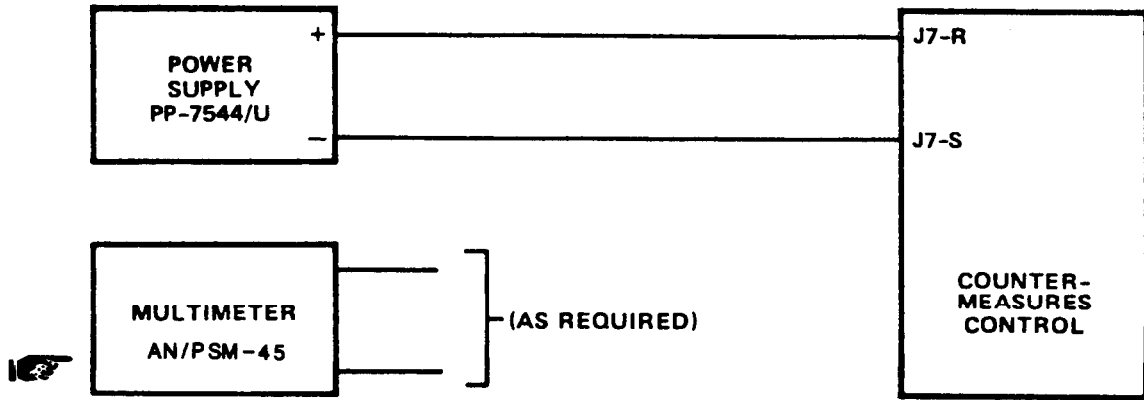

Figure 5-5. Countermeasures Control ICS Power Test Setup
a. Establish test setup as shown in figure 5-5.
(1) Measure resistance between TB1-16 and TB1-20	150 ohms, minimum	Replace relay K2 and proceed with step 7e.	Replace resistor R1 and proceed with step 7e.